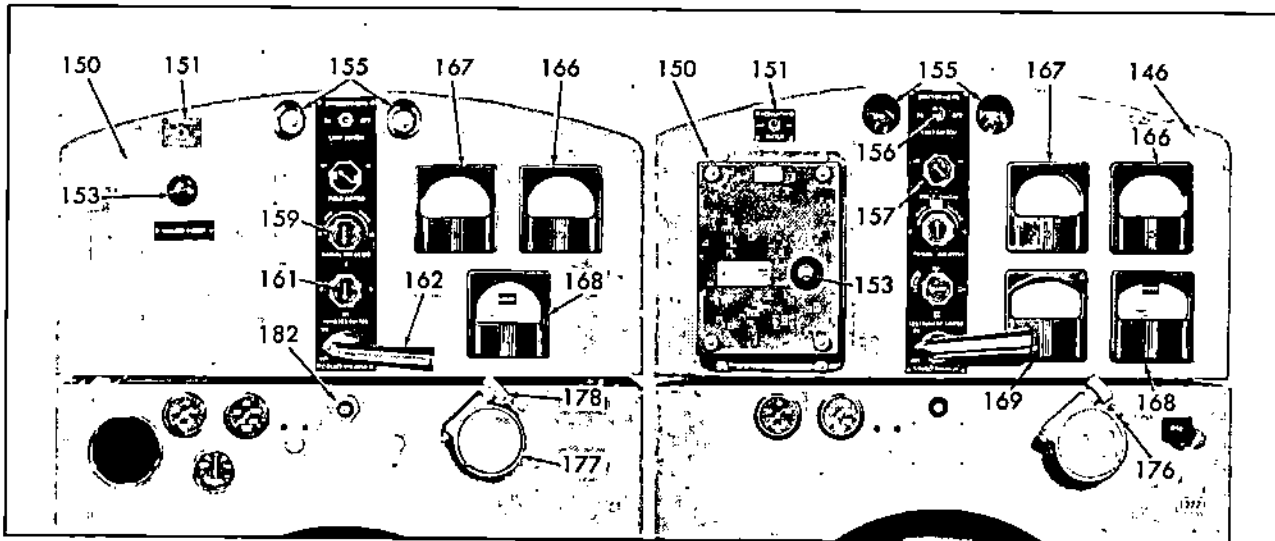

Fig. 1 - Typical Alternating Current Generator Control Cabinets
4. Refer to Fig. 1 and place the circuit breaker (162) in the OFF position.
Press the throttle button (176) and turn the throttle control (177), Fig. 1, counterclockwise to a position midway between RUN and STOP. Then, press the starter button (182) firmly.
1. Bring the engine up to rated speed. Then, place the field switch (157), Fig. 1, in the ON position.
2. Turn the voltage regulator switch (151) ON.
3. Turn the instrument selector switch (161) to the desired position.
4. Turn the field rheostat (159) slowly in a counterclockwise direction to raise the voltage, while watching the voltmeter, until the desired voltage is reached. The voltage regulator will take control of the generator voltage as the field rheostat reaches the end of its travel.
5. If the power generator unit is equipped with a frequency meter, adjust the engine speed with the vernier throttle knob (178) until the desired frequency is indicated on the meter.
6. Adjust the voltage regulator rheostat (153) to obtain the desired voltage.
2. Check the voltmeter (167), Fig. 1; the voltage must be the same as the line voltage. Adjust the voltage regulator rheostat control (153) if the voltages are not the same.
3. Place the synchronizing lamp switch (156), of the power unit to be paralleled, in the ON position.
4. Turn the vernier throttle knob (178) until both units are operating at approximately the same frequency indicated by the slow change in the brilliancy of the synchronizing lamps.
6. The division of the kilowatt load between the alternating current generators operating in parallel depends on the power supplied by the engines to the generators as controlled by the engine governors and is practically independent of the generator excitation. Divide the kilowatt load between the units by turning the vernier throttle knob (178) counterclockwise on the incoming unit and clockwise on the unit that has been carrying the load, (to keep the frequency of the units constant) until both kilowatt meters
Shift the load from the generator when taking a unit out of parallel operation by turning the vernier throttle knob (178), Fig. 1, until the ammeter (166) reads approximately zero.
2. Place the circuit breaker control (162) in the OFF position.
3. Turn the field rheostat (159) to the fully clockwise position.
4. Turn the voltage regulator switch (151) to the OFF position.
5. Place the field switch (157) in the OFF position.
6. Press the throttle button (176) and turn the throttle control (177) to STOP to shut-down the engine.